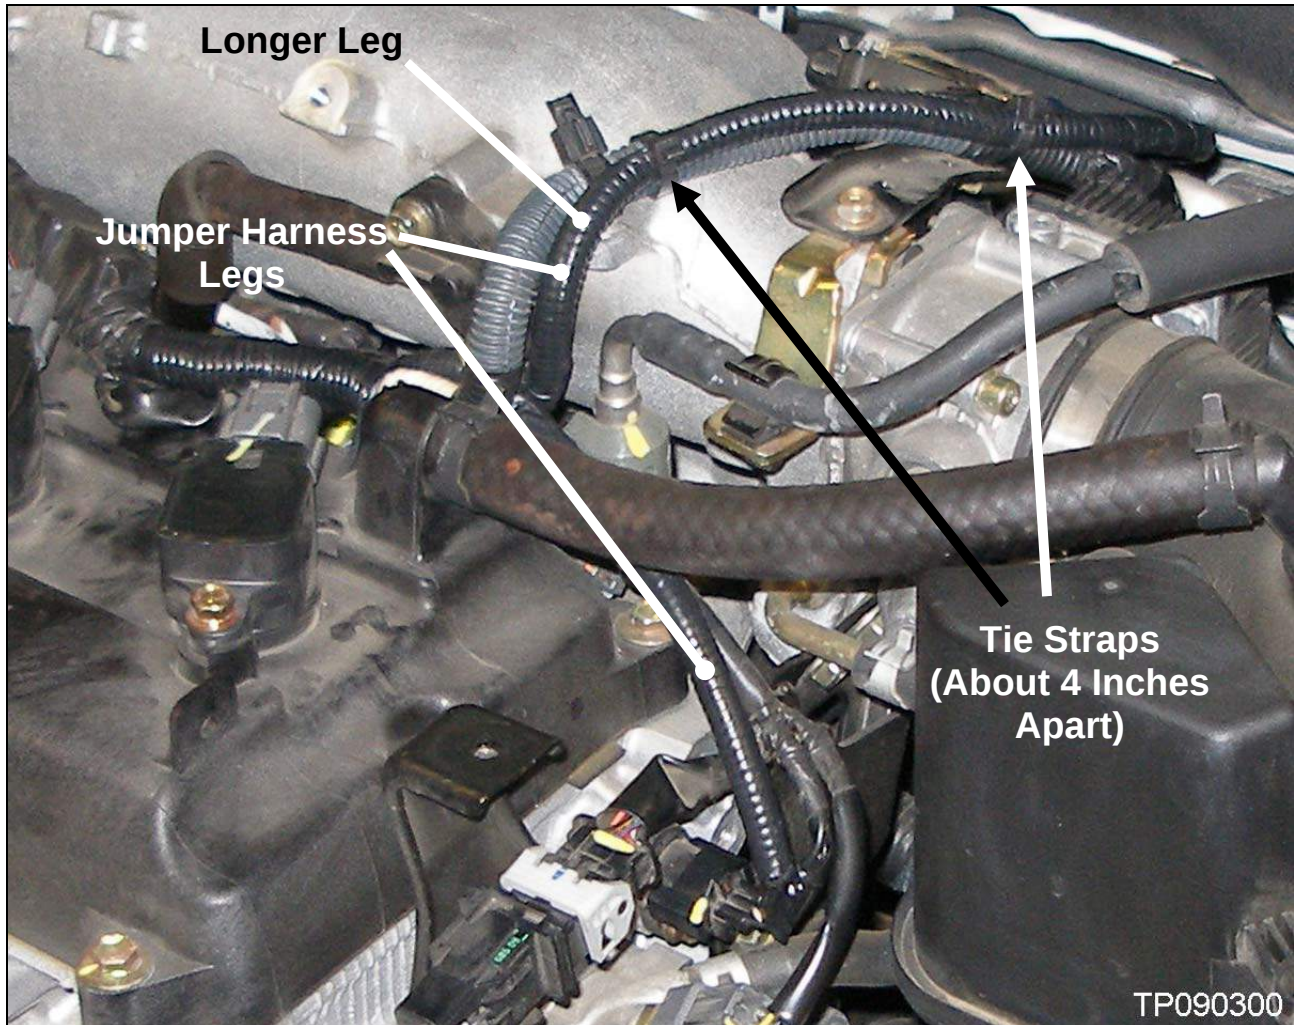

Figure 11
9. Route the jumper harness legs to the respective purge S/V and CMPS connectors as shown in Figure 11.
12. Secure the leg going to the purge S/V with the two tie straps supplied in the kit as shown in Figure 11.